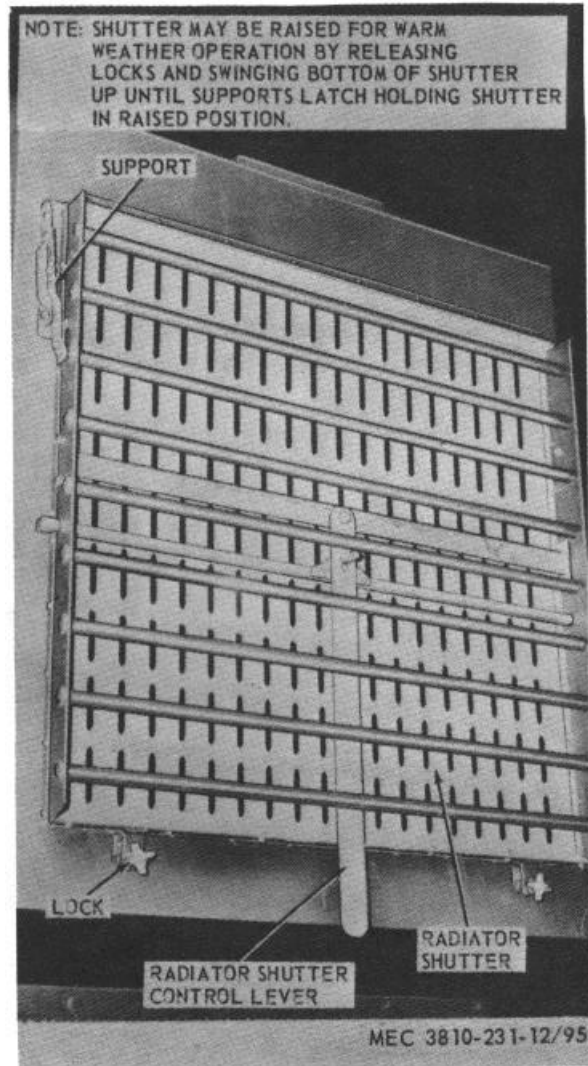

Figure 95. Radiator winter front .
c. Refer to figure 95 for operating instructions of winter front.